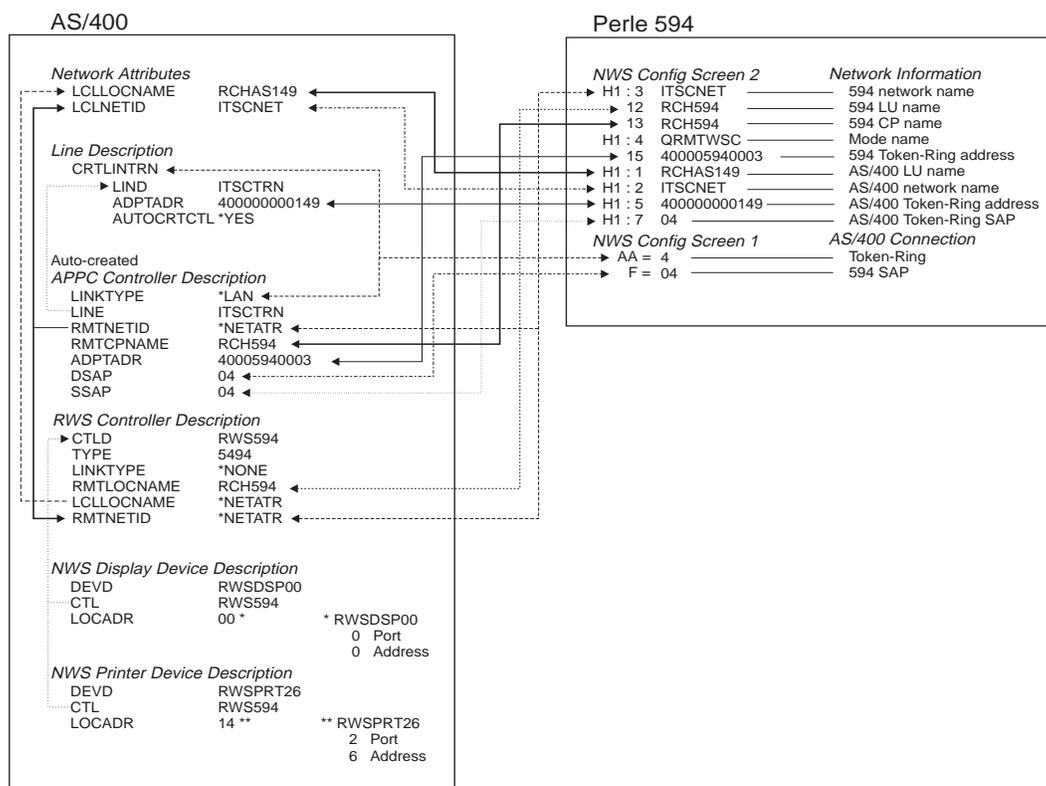

Fig. 10: AS/400 Token-Ring configuration cross-reference
- Fig. 10: AS/400 Token-Ring configuration cross-reference 6